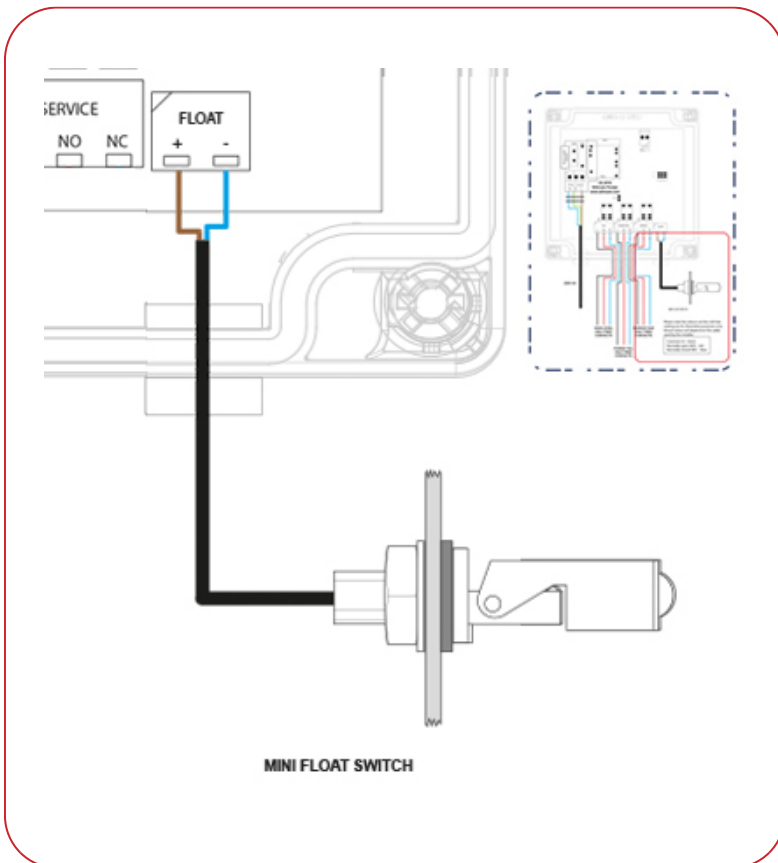

Fig.3 Connecting the Mini float switch to the AquaSafe Alarm
3. Connect the brown core to the positive and the blue core to the negative terminal, **as shown in fig.3.**